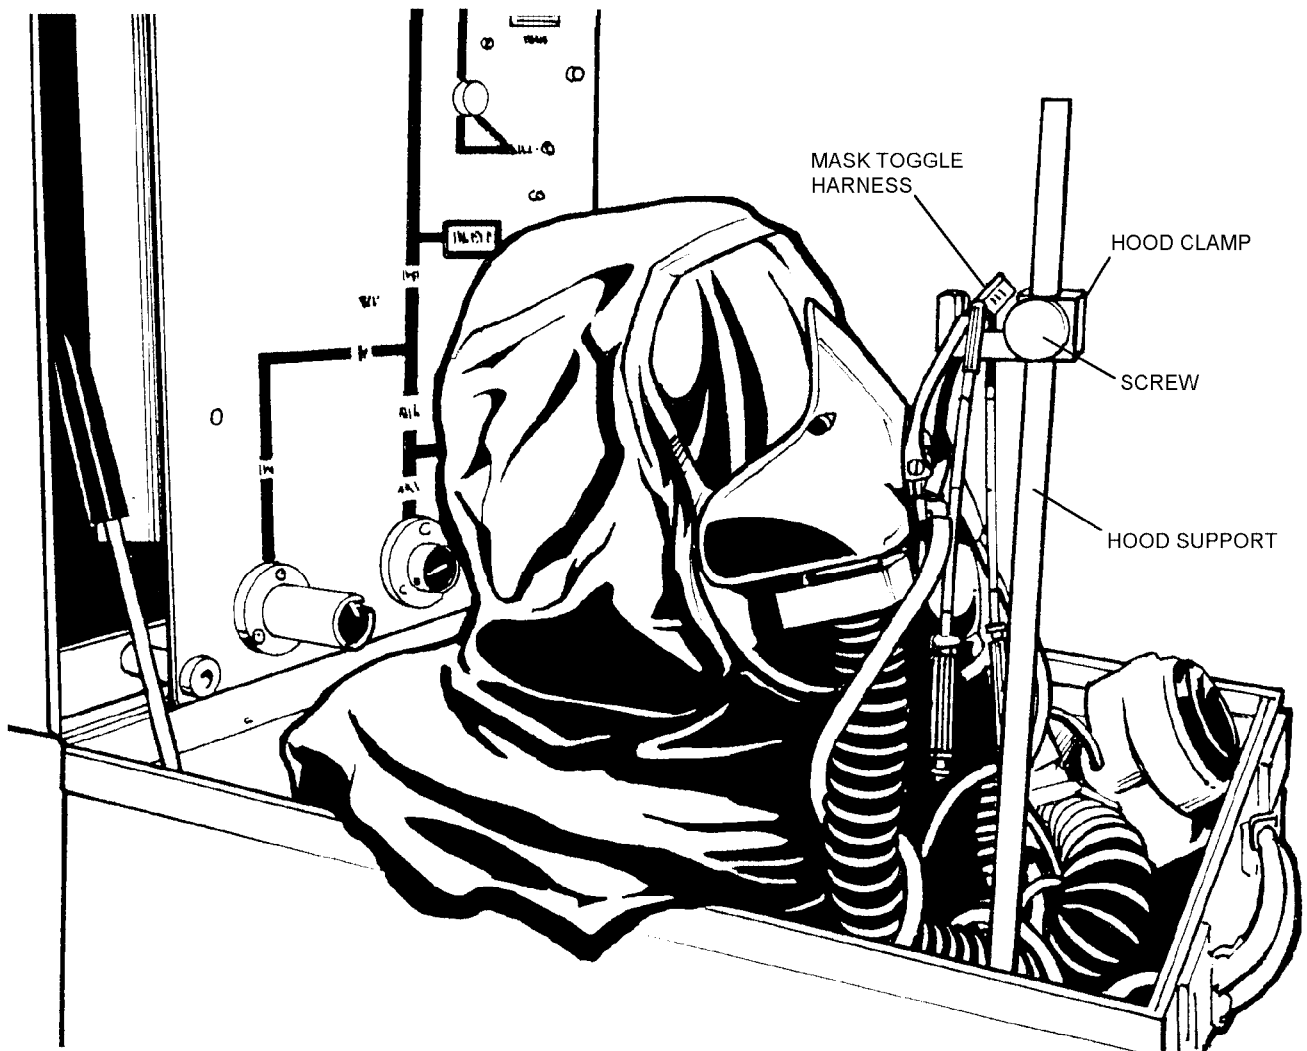

Figure 4-76. Hood Support Clamp
2. Support mask toggle harness on hood support clamp (figure 4-76).